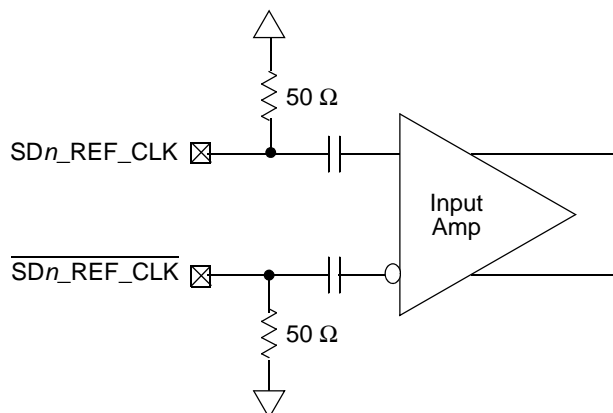

Figure 44. Receiver of SerDes Reference Clocks
Figure 44 shows a receiver reference diagram of the SerDes reference clocks. Characteristics are as follows:
- The  $\text{SDn\_REF\_CLK}$  and  $\overline{\text{SDn\_REF\_CLK}}$  are internally AC-coupled differential inputs as shown in Figure 44. Each differential clock input ( $\text{SDn\_REF\_CLK}$  or  $\overline{\text{SDn\_REF\_CLK}}$ ) has on-chip  $50\text{-}\Omega$  termination to  $\text{SGND\_SRDSn}$  ( $\text{xcorevss}$ ) followed by on-chip AC-coupling.